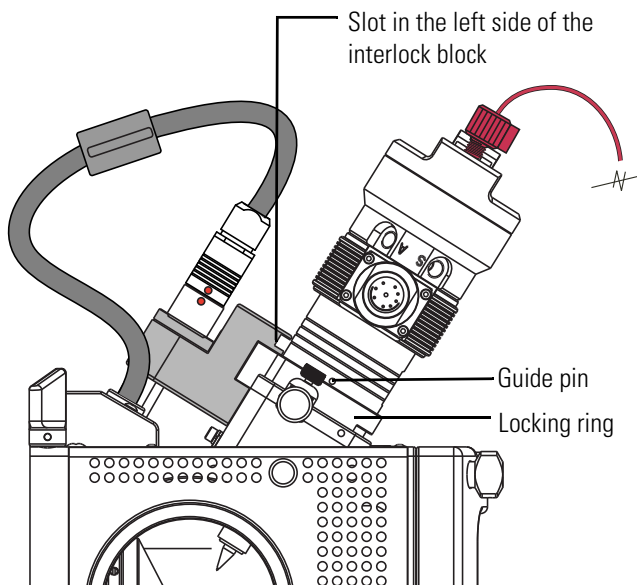

Figure 8-21. Guide pin touching the locking ring
- a. Holding the probe with the nozzle facing down and the guide pin facing toward the left, slowly insert the probe into the port until the guide pin meets the locking ring on the API source housing (Figure 8-21).